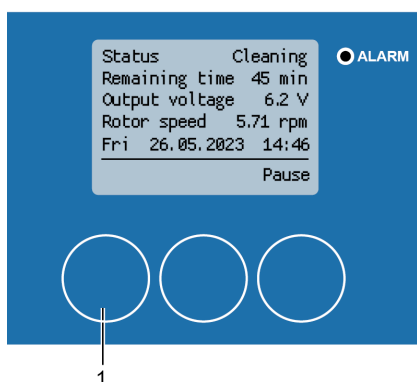

Fig. 169: Resume cleaning process
1. Press **[Resume]** (Fig. 169/1) to resume the cleaning process.